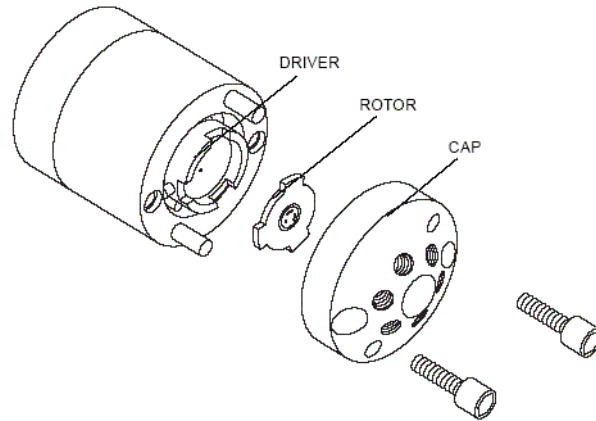

Figure 6-1. Exploded view of injection valve
1. Use a 9/64 in. hex driver to remove the socket head screws that secure the cap on the valve. (See Figure 6-1.)